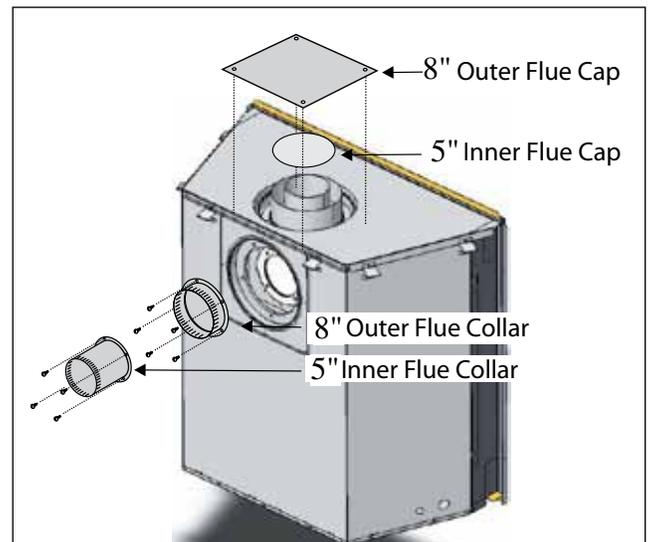

Figure 8b. Flue collar installation for Rear Vented fireplace.
3. Install the flue gasket material and flue cover plate on the top vent outlet. Fasten the plate with four screws as illustrated in Figure 8b.